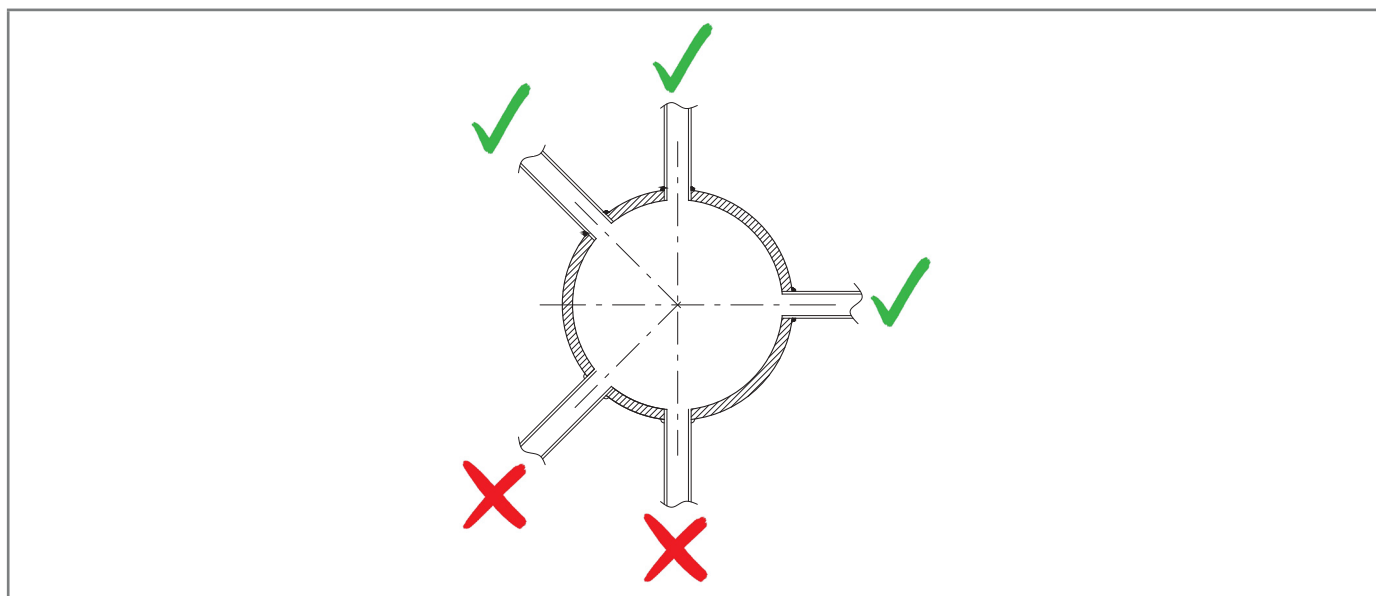

Fig. 6.22. Welded pipe connections
- the pipe connections are always welded on the upper part or at maximum 90 degrees on the axis of the pipe (refer to Fig. 6.22);